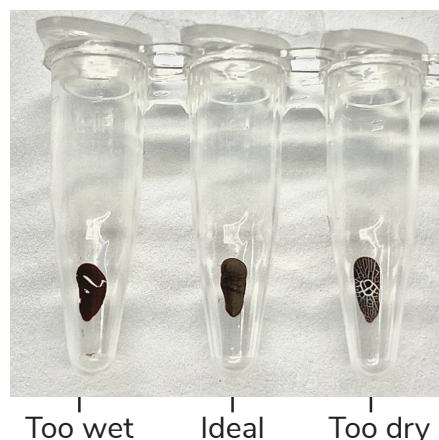

FIGURE 9
54. Remove tubes from magnet. Air-dry, caps open, 2-3 min at RT. Beads should be damp matte brown (Figure 9). If beads are crackly and/or light brown, they are too dry.